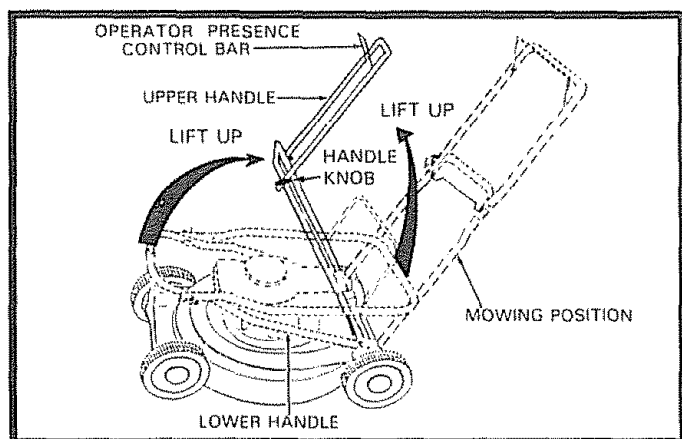

FIG. 1
- Raise handles until lower handle section locks into place in the mowing position (See Fig. 1).
- Raise upper handle section into place on lower handle and tighten one (1) handle knob.